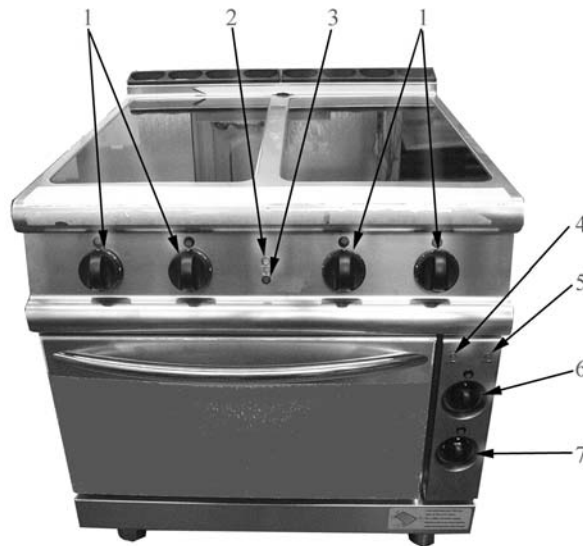

Fig. 2
Turning the knob (pos. 1 in Fig. 2) to the desired position switches on the power indicator light (pos. 2 in Fig. 2). This means that the appliance is on and the selected cooking zone is beginning to heat up. This type of heating takes place when the heating elements are enabled and heat spreads through radiation. The heating elements temperature can be adjusted through a power regulator.